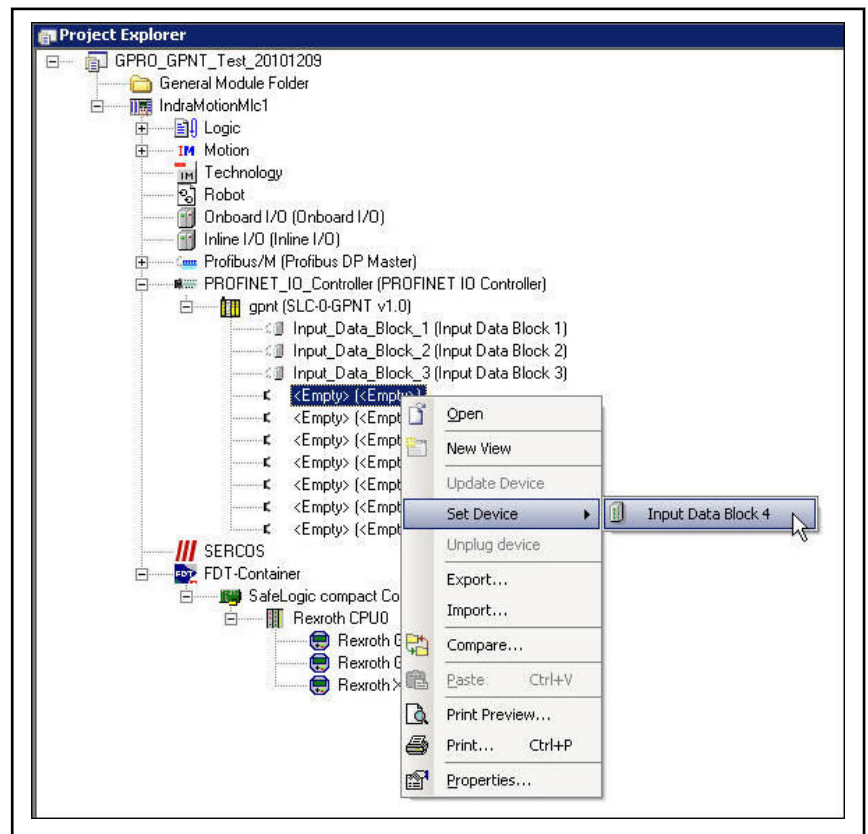

Fig. 5-24: SLC-0-GPNT configuration
The physical SafeLogic compact I/O modules are not represented as typical hardware modules in the Profinet IO hardware catalog. Instead, the data available from the SafeLogic compact system has been organized into data blocks. Each data block represents one "virtual hardware" module in the Profinet IO hardware catalog. The GSDML of the Profinet IO gateway supports ten (10) slots (see fig. 5-24 "SLC-0-GPNT configuration" on page 63) where the modules can be placed. This allows each data block to be mapped once.